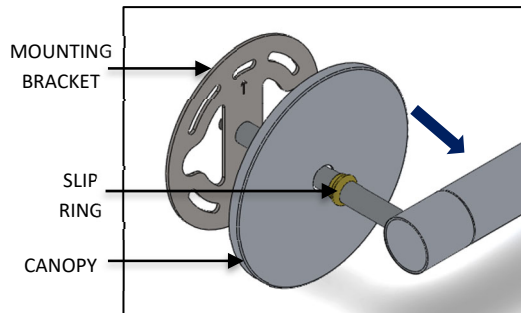

FIG. 11 – CANOPY DIS-ASSEMBLY
1. Loosen the slip ring and slide the canopy toward the fixture body (on both sides), as shown in FIG. 11. Be careful not to scratch finish